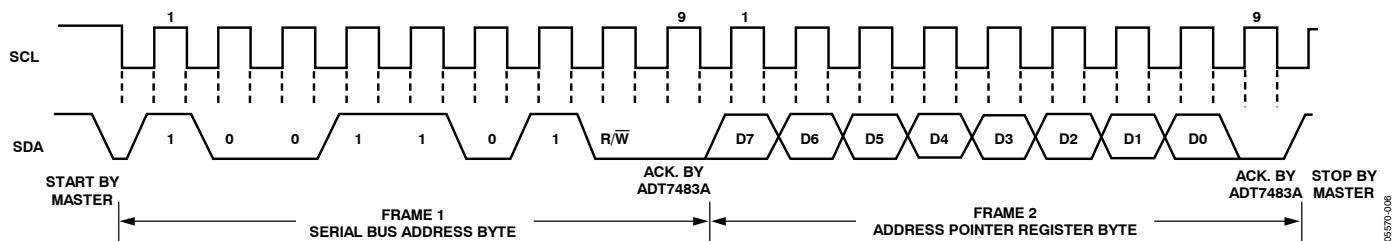

Figure 17. Writing to the Address Pointer Register Only
- If the address pointer register value of the ADT7483A is unknown or not the desired value, it is first necessary to set it to the correct value before data can be read from the desired data register. This is done by performing a write to the ADT7483A as before, but only the data byte containing the register read address is sent, as data is not to be written to the register (see Figure 17).
- If the address pointer register is known to be already at the desired address, data can be read from the corresponding data register without first writing to the address pointer register and the bus transaction shown in Figure 17 can be omitted.